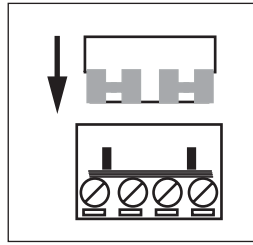

Fig 4 Continuity link
3. If a continuity test is to be done, it should be carried out before securing the call point to the backbox (step 4). Insert the continuity links supplied with the backbox (Fig 4) into the terminal blocks before testing. After testing for continuity remove the connectors and store for re-use.